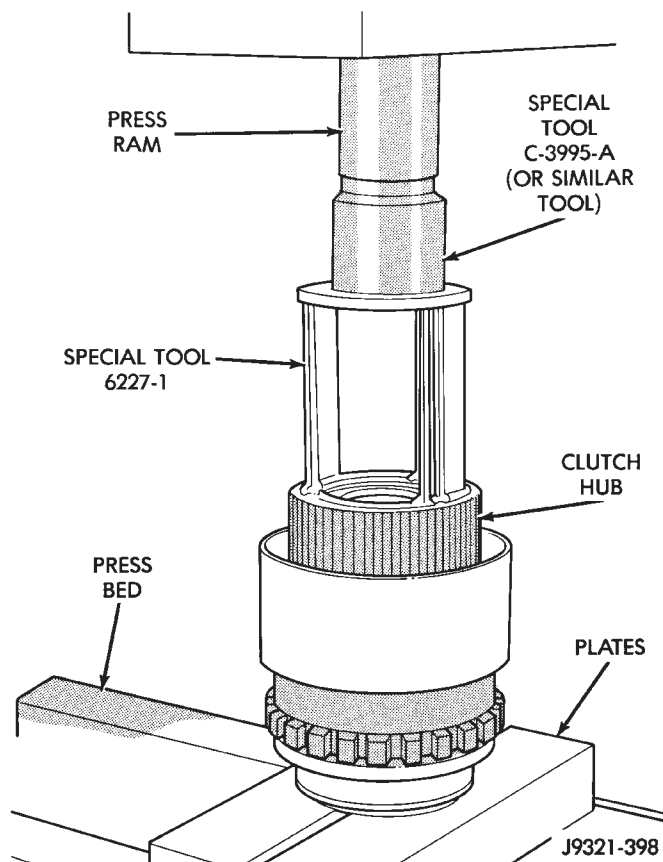

Fig. 262 Geartrain Mounted In Shop Press
(1) Mount geartrain assembly in shop press (Fig. 262).
(2) Position Compressor Tool 6227-1 on clutch hub (Fig. 262). Support output shaft flange with steel press plates as shown and center assembly under press ram.
(3) Use Special Tool C-3995-A (or similar size tool) at top of Tool 6227-1 to help distribute load and provide needed extra press length (Fig. 262).
(4) Apply press pressure slowly. Compress hub and spring far enough to expose clutch hub retaining ring and relieve spring pressure on clutch pack snap ring (Fig. 262).